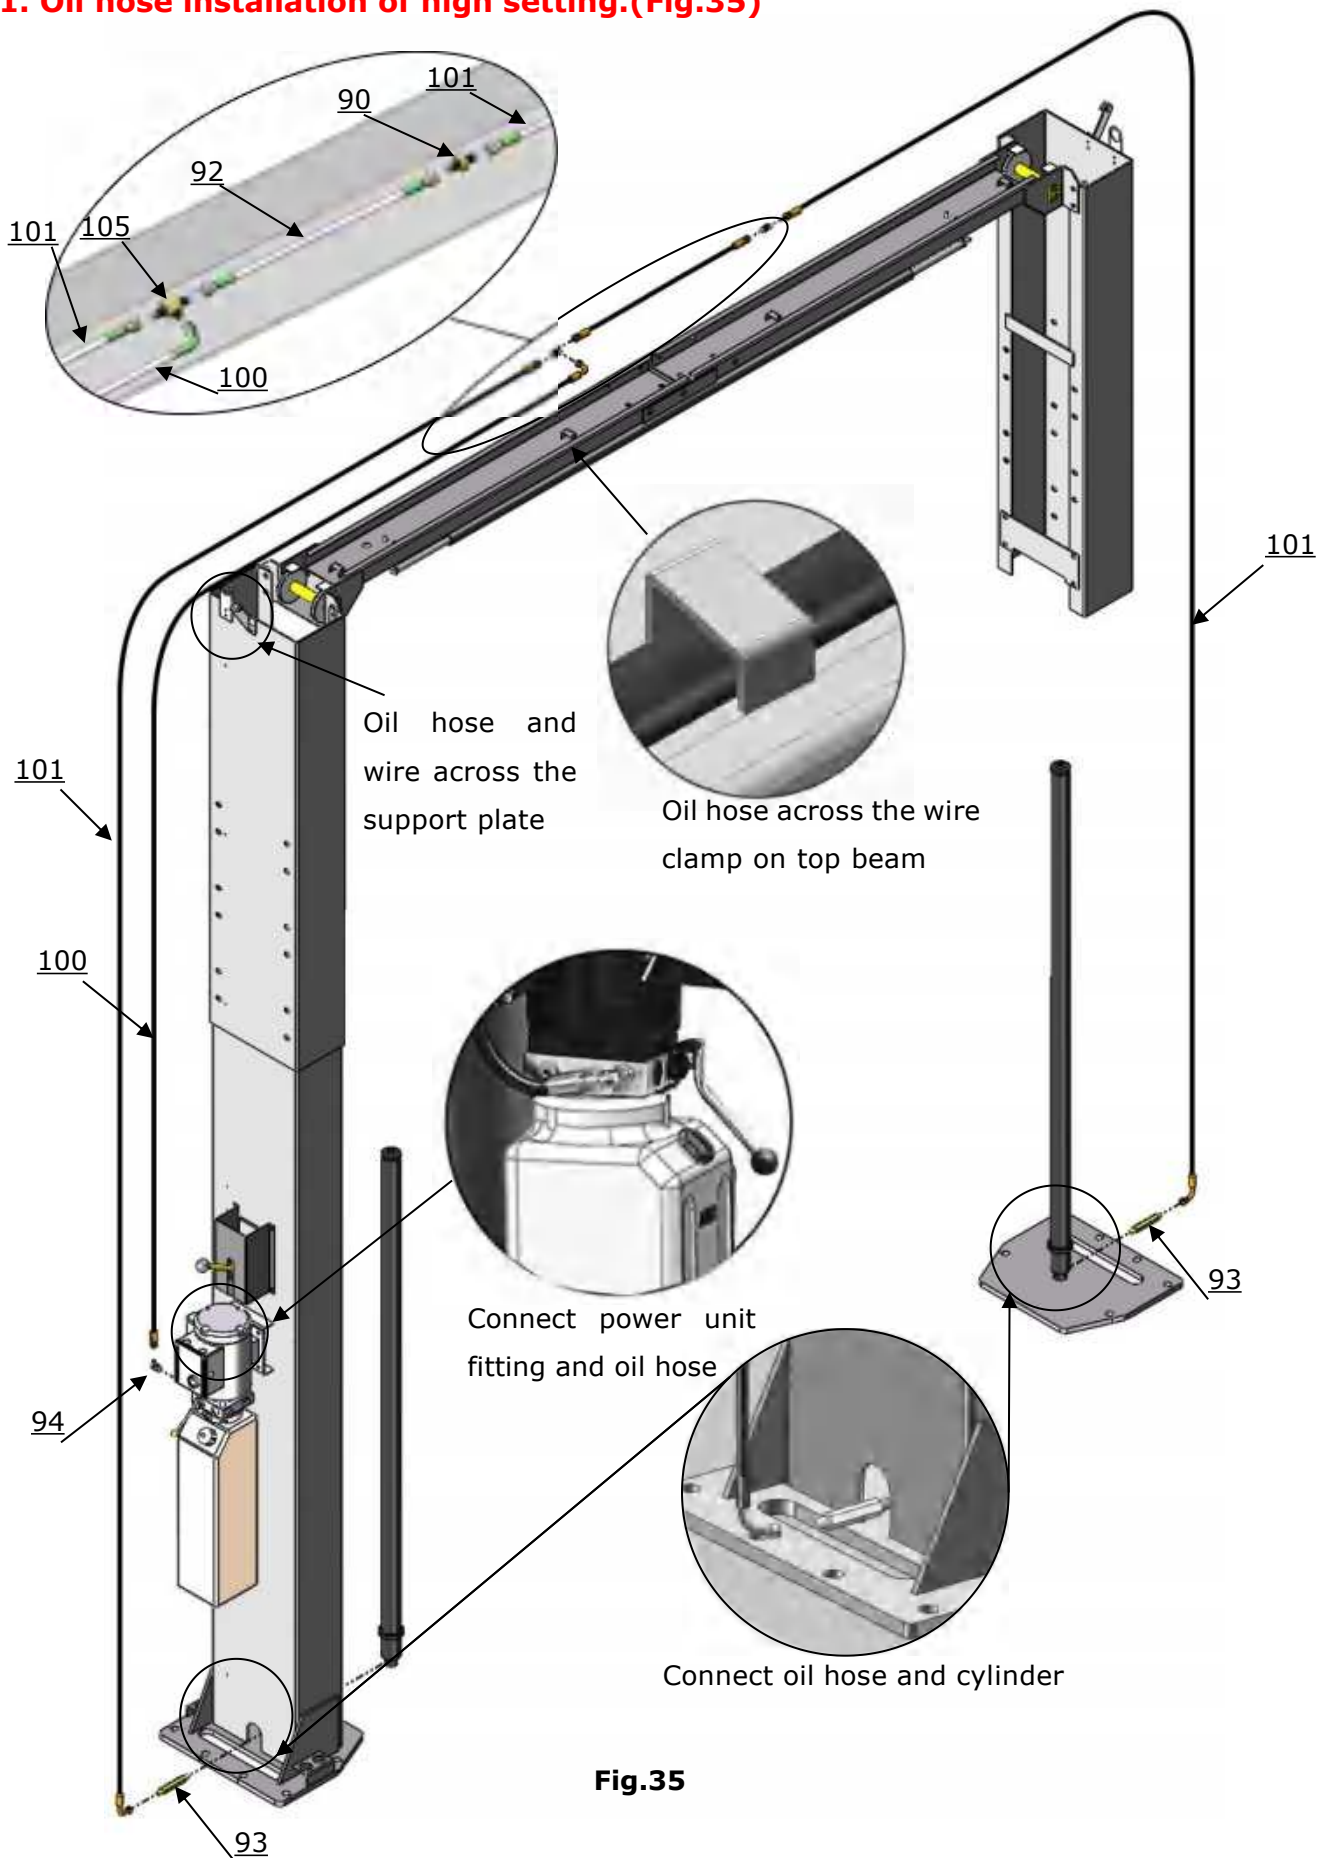

Fig.35
1. Oil hose installation of high setting.(Fig.35)